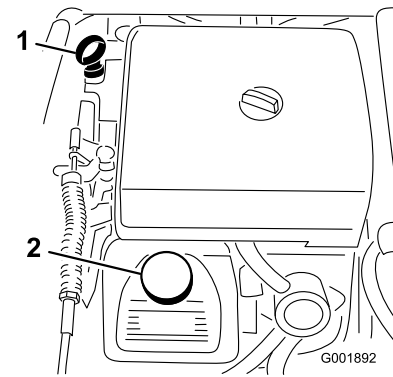

Figure 49
2. Remove the dipstick and wipe it with a clean rag (Figure 49). Insert the dipstick into the tube and make sure it is seated fully. Remove the dipstick and check the oil level.
3. If the oil level is low, remove the filler cap from the valve cover (Figure 49) and pour oil into the opening until the oil level is up to the Full mark on the dipstick. Add the oil slowly and check the level often during this process. Do not overfill.
- Slowly pour approximately 80% of the specified amount of oil into the oil filler tube (Figure 49).